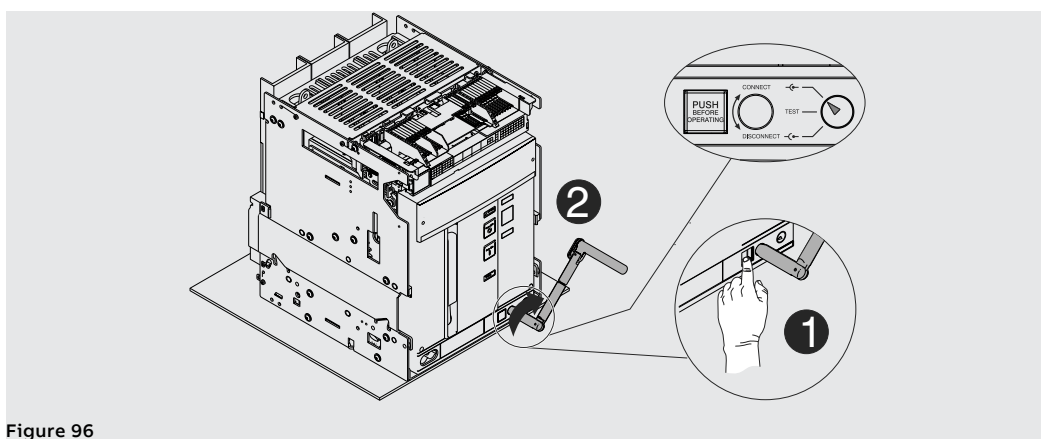

Figure 96
11. Press lock pushbutton and turn handle clockwise until pushbutton projects and signaling device indicates that circuit-breaker is in position **CONNECT**. See Figure 96.